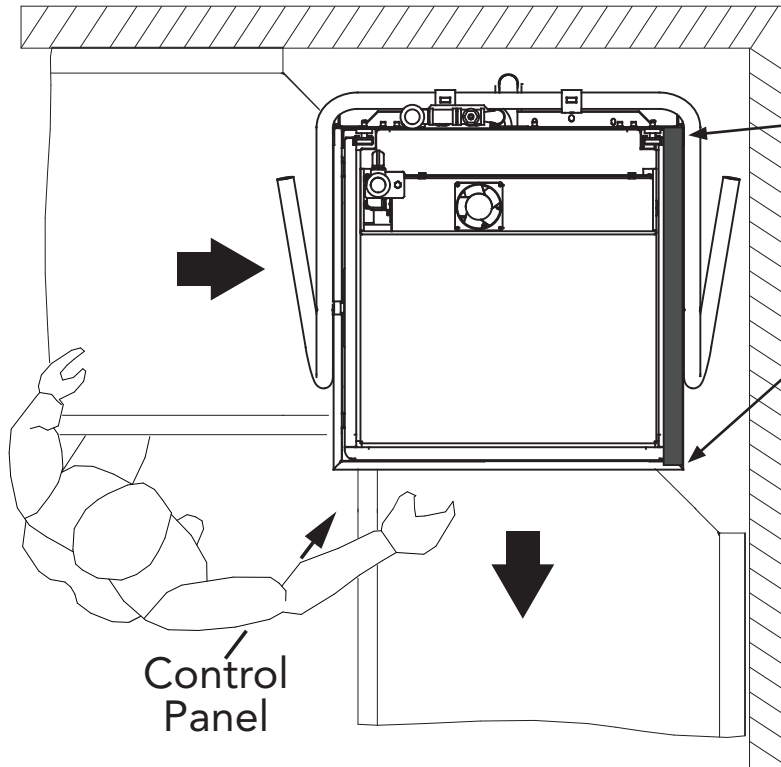

Fig. 4 - Nominal corner installation
1. The control panel must be accessible from the front as shown in Fig. 4.